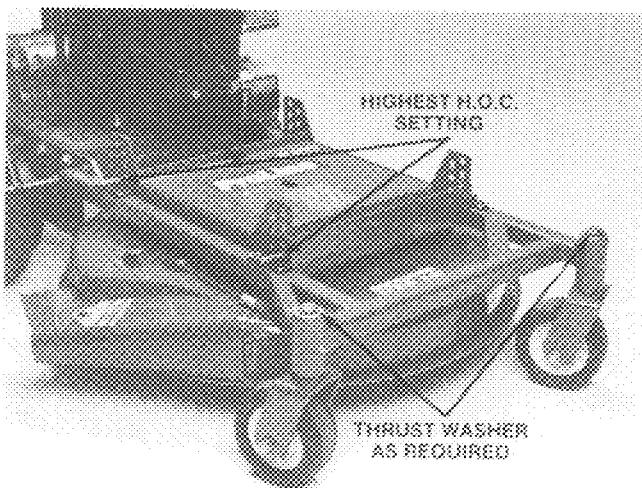

Figure 14
1. Check to make sure front support rod is resting properly on frame cushions (Fig. 14). Make sure blade is not bent: refer to Checking for Bent Blade, page 9. Check air pressure in tires.
2. Raise height-of-cut to the 3-1/2" (89 mm) or 4 in. (102 mm) position (Fig. 14). refer to Adjusting Height-Of-Cut, page 7.
- A. Cutting units usually operated at 1 to 2 in. (25 to 51 mm) height-of-cut should have the low side of the cutting unit raised. Remove the Klip ring securing castor wheel on low end (Fig. 14) and remove castor assembly.
- C. If cutting unit is operated at 2 to 4 in. (51 to 102 mm) height-of-cut, lower the high side of cutting unit. Remove Klip ring of castor at high end of unit and remove castor assembly (Fig. 14).
- D. Transfer one thrust washer from lower side of castor shaft to top side, install assembly and check blade height; refer to items 3 through 7. Repeat procedure if height still does not meet requirements.